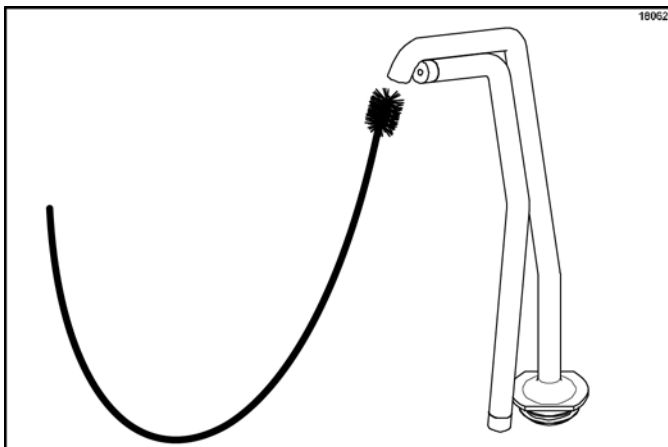

Figure 6-101
- Insert the black shielded brush through the tip of the discharge tube. Move the brush back and forth to scrub the tip of the discharge tube. (See Figure 6-101.)